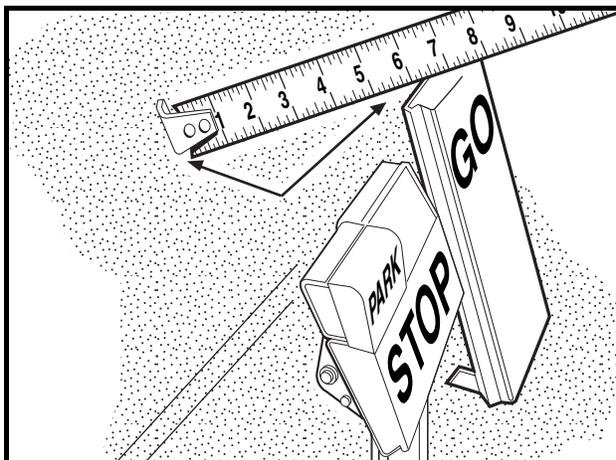

Figure 5-14 Accelerator Pedal Height Measurement
- 3.3. With the park brake unlocked, measure and note the distance from the top of the accelerator pedal to the floorboard, then lock the park brake (Figure 5-14, Page 5-13).